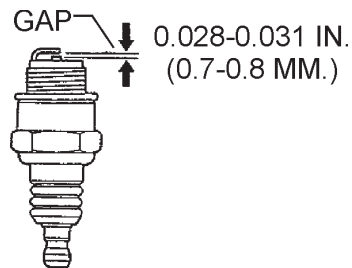

Figure 20. Spark Plug Gap
- Remove and clean the spark plug (Figure 20), then adjust the spark gap to 0.028 ~0.031 inch (0.6~0.7 mm). This unit has electronic ignition, which requires no adjustments.